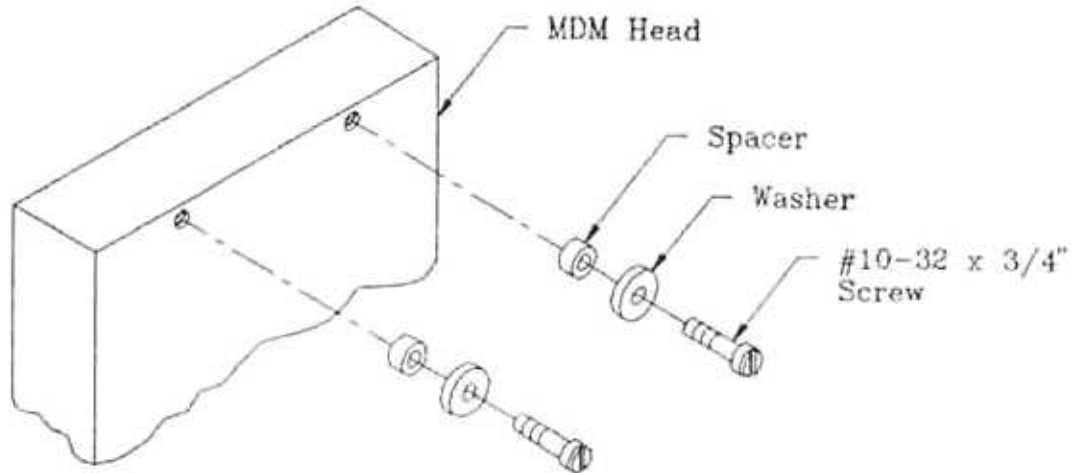

Figure 6
- A. Remove the two 10-32 X ¼" screws from the rear top of the head. Assemble washer and spacer to the 10-32 X ¾" screw. Thread screw into tapped hole (10-32) on rear top of analgesia head. Turn the screw until it is tight. Repeat for the other screw. (See fig 6).